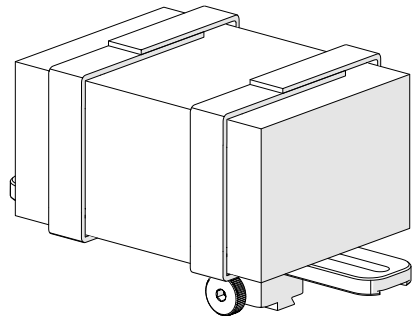

Fig. 151 - Velcro wrapped around preamp
3. Secure the preamp to the bracket attaching each side of the velcro (*Fig. 151*).